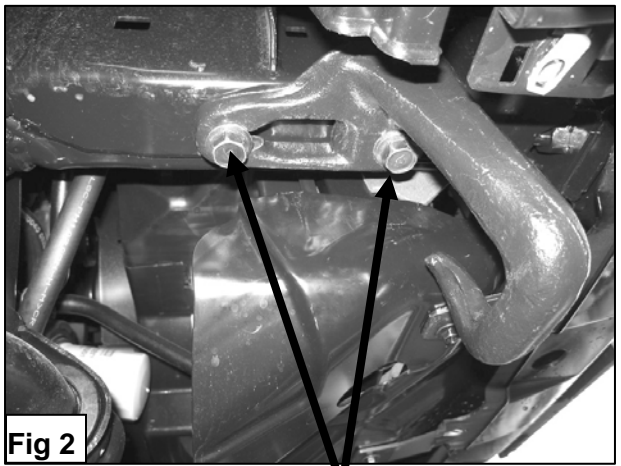

Fig 2
- Remove the factory tow hook located on the passenger side (**Figure 2**). **NOTE:** You will not be re-installing tow hook.